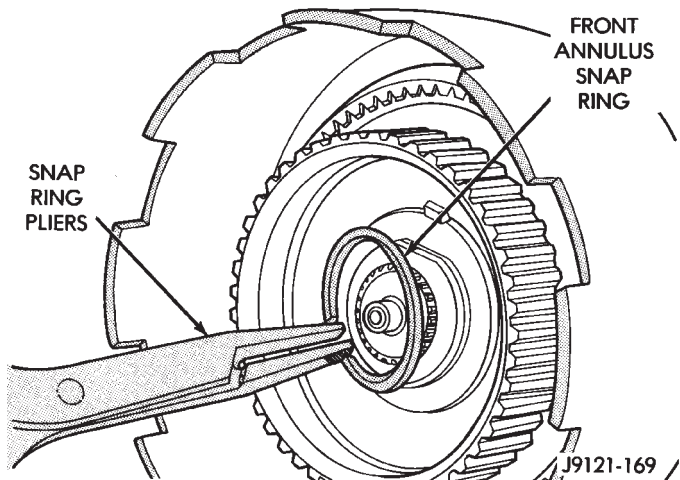

Fig. 98 Installing Front Annulus Snap Ring
(20) Install front annulus snap ring (Fig. 98). Use snap ring pliers to avoid distorting ring during installation. Also be sure ring is fully seated.